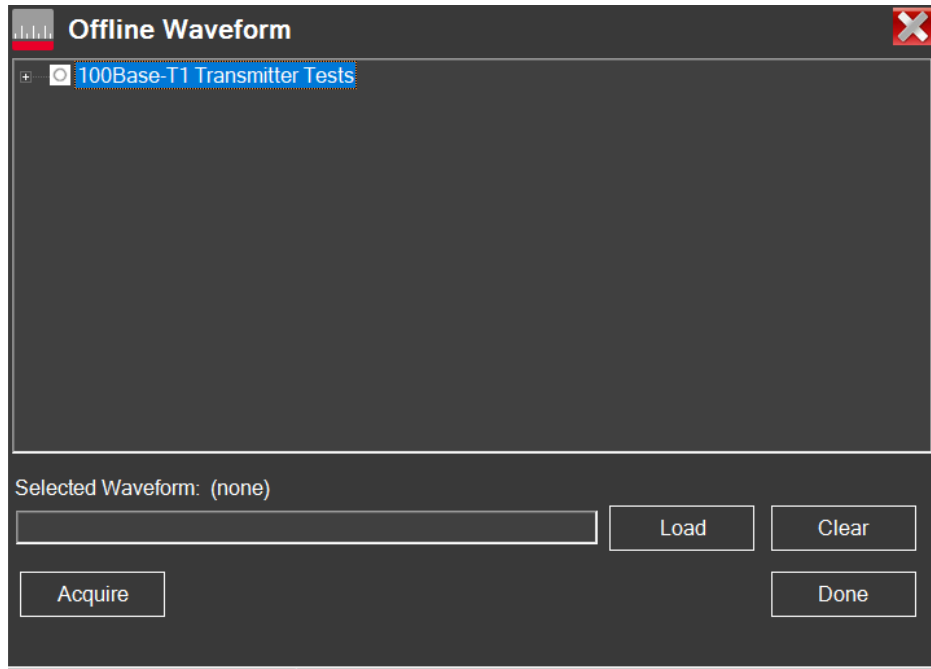

Figure 11-49 Offline Waveform dialog box
- 2 Click **+** to expand and view the available waveform types for each test mode as shown in Figure 11-49.